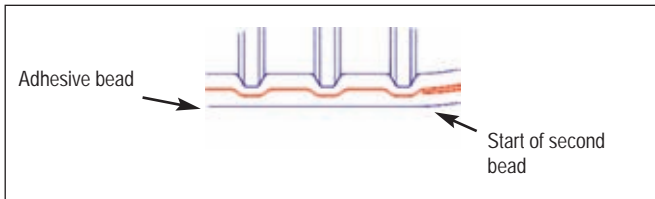

FIGURE 7-3
7.2.8. At ribs, stay in the middle of the flange – this will cause a repeating pattern. (See FIGURE 7-3.)